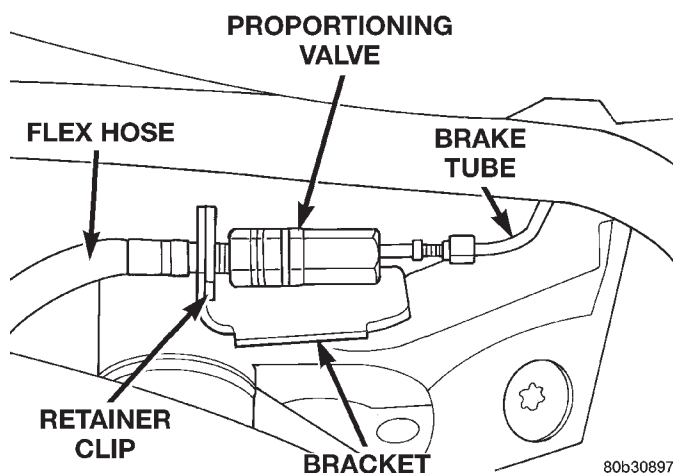

Fig. 15 Proportioning Valve
(1) Raise the vehicle on jack stands or centered on a hoist. See hoisting in the Lubrication and Maintenance section of this manual.
(2) Clean any debris away from the suspect proportioning valve, connections, and area.
(3) Remove the chassis brake tube (Fig. 15) from the suspect proportioning valve.
(5) Remove the retainer clip securing the rear flex hose from its bracket (Fig. 15). **This should be done to allow the proportioning valve pressure test fittings to be installed without bending the chassis brake tube.**
(12) Install the rear brake flex hose to its mounting bracket using a new retainer clip.
(13) Install the proportioning valve to the rear brake flex hose. Tighten to a torque of 17 N·m (145 in. lbs.).
(14) Install the chassis brake tube to the proportioning valve (Fig. 15). Tighten the tube nut to a torque of 17 N·m (145 in. lbs.).
(15) Bleed the affected brake line. See Bleeding Brake System in the Service Adjustments section of the manual for proper bleeding procedure.
(16) On vehicles with Antilock Brakes, repeat the above steps for the other proportioning valve.
(17) If no problem is found with the proportioning valves, check the rear wheel brake shoe linings for contamination or for replacement brake shoes not meeting OEM brake lining material specifications. These conditions can also be a possible cause for a premature rear wheel skid.